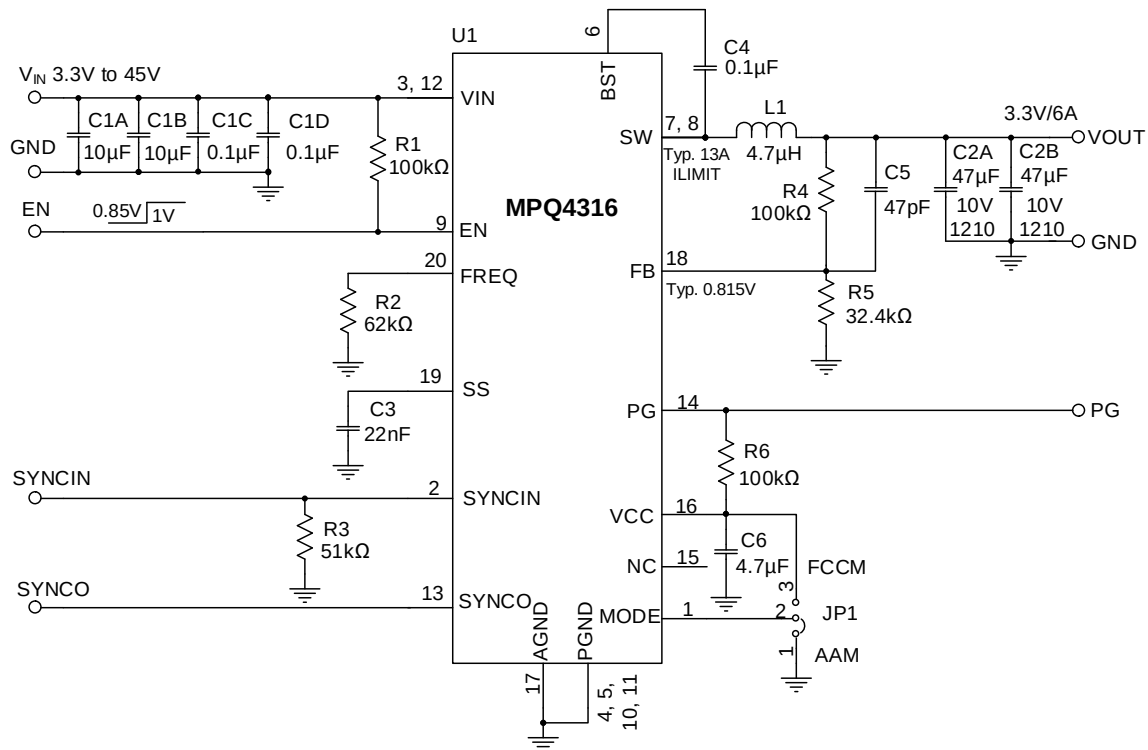

Figure 13: $V_{OUT} = 3.3V$, $f_{SW} = 470kHz$
9) The recommended PCB layout is based on Figure 13.